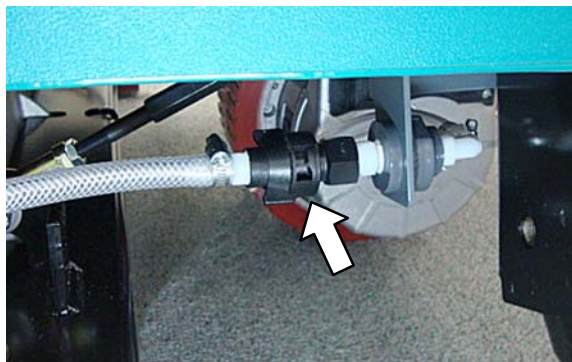

Fig. 44
3. Connect the quick disconnect connector from the *ec*-H₂O pump assembly as shown (Figure 44).